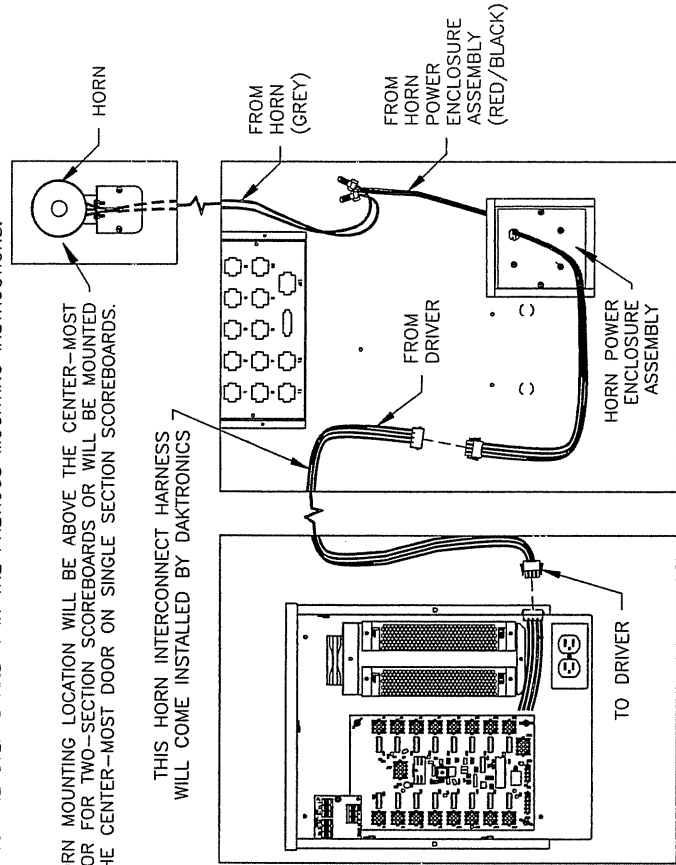

FIGURE 3
4) LOCATE THE TWO RED AND GREY WIRES ATTACHED TO THE HORN POWER ENCLOSURE ASSEMBLY. ATTACH ONE OF THE GREY HORN WIRES TO THE RED WIRE AND ATTACH THE OTHER GREY WIRE TO THE BLACK WIRE. USE INCLUDED WIRE NUTS. SEE FIGURE 3.